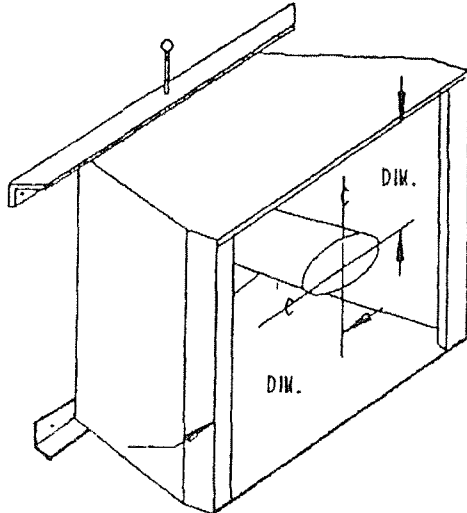

FIGURE 6
- Next, remove the four (4) screws holding the heater to the stand. Position heater out of the way of the installation area.
- Obtain pedestal stand and turn over. Measure the distance from the front or the rear and the sides of the bottom edge of the pedestal (whichever you used as the reference in marking stand location on the pad) to the center of the round duct portion of the pedestal stand. (See Figure 6).